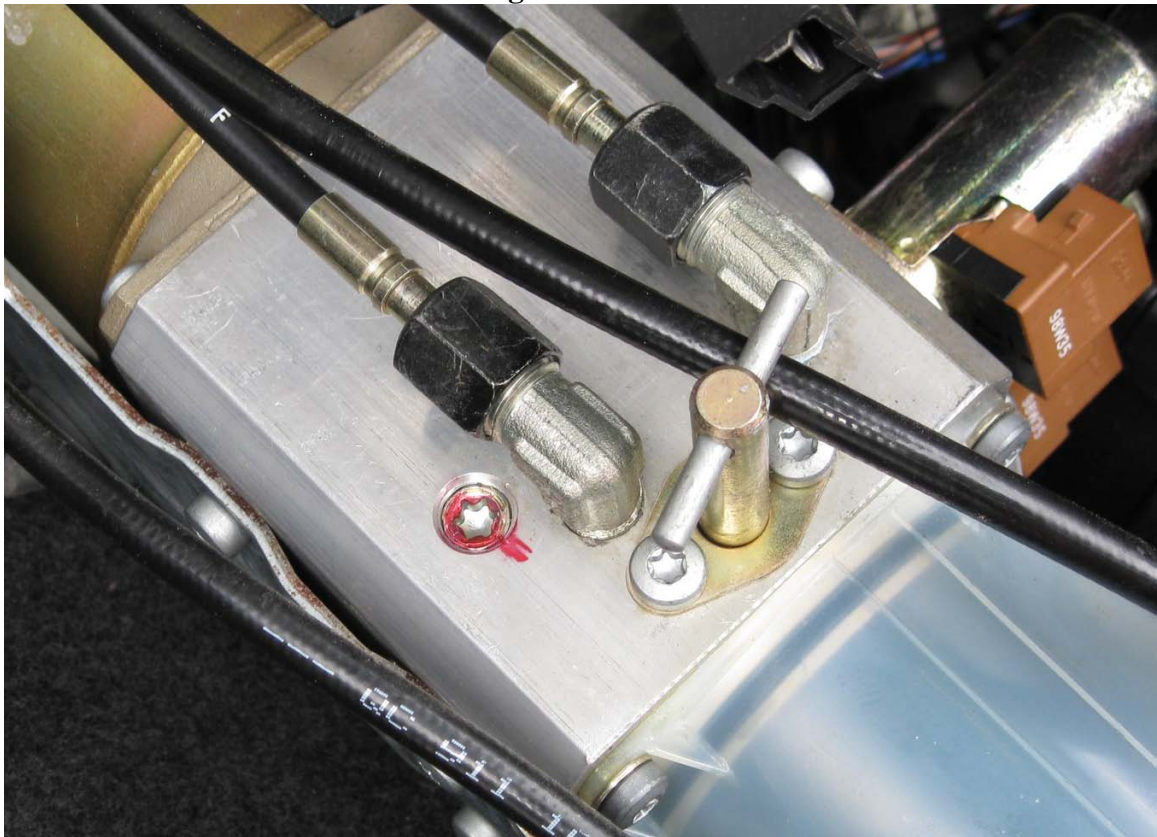

Figure 2 – PORT 1
IMPORTANT: Do not open the kit before Installation Step 5 (Port 1, Figure 2) below. In rare instances the plug cannot be removed. We will accept returns on unopened kits with no restocking charges. There will be a small charge on kits that have been opened but not installed.
3. Turn the manual valve (device on inboard side of the pump with the T handle in Figure 2) counter clockwise slightly to allow any residual pressure in the system to drain back into the tank. It is only necessary to crack this valve. **Then turn the valve back to the full clockwise position.**
5. Use the T30 bit to remove the plug that is located below the lowest hose fitting. This is the red item in Figure 2. On some pump assemblies it might be necessary to twist the adjacent elbow for the latch hose out of the way. **NOTE: This fitting is sealed (the red stuff) and can be difficult to remove. Be extra careful to not strip the head. Use a high quality T30 tool made from hardened steel. Fastening the pump back in the original position allows for better leverage. If all else fails the hoses can be removed (mark them carefully) and the pump removed for more secure fixturing.**